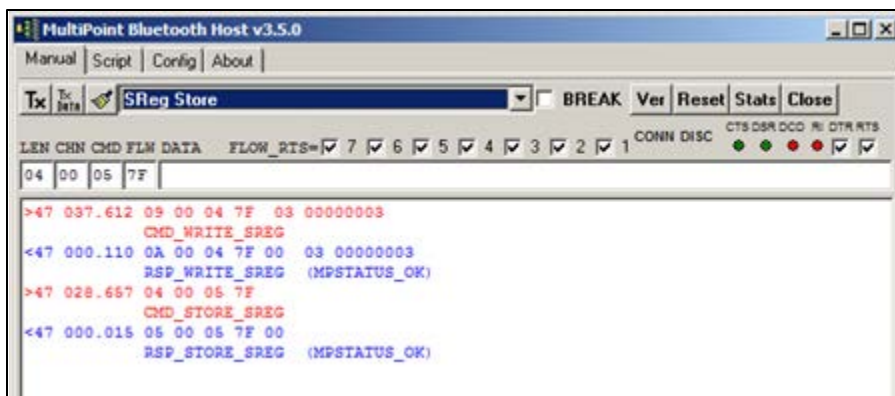

Figure 44: Store the S Register
2. Store the S Register (Figure 44).